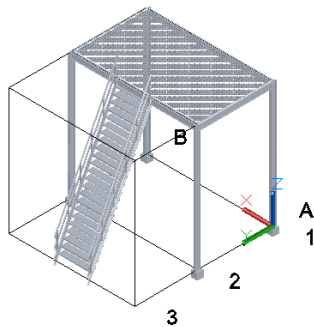

Figure 3-47 Railing added to the stairs
3. Select the stairs; a railing is added to the stairs, as shown in Figure 3-47. Note that the view orientation in the figure is set to **NW Isometric**.